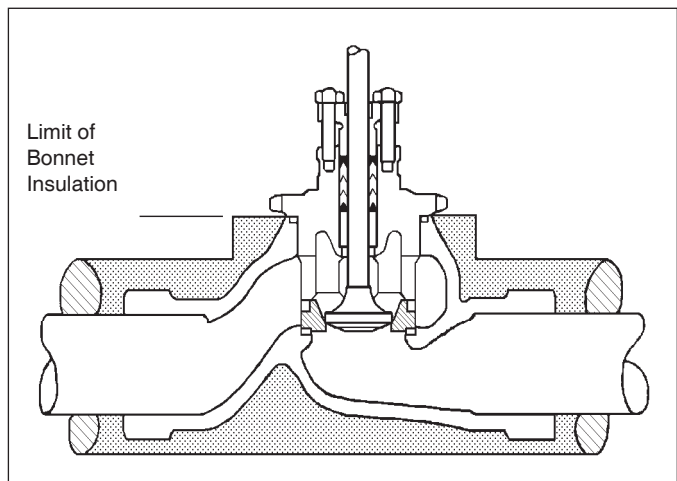

Figure 3: Body Insulation
10. Insulation may be applied as indicated in Figure 3. Drainage away from the packing area must be ensured when fully installed, sealed and lagged for outdoors installation.